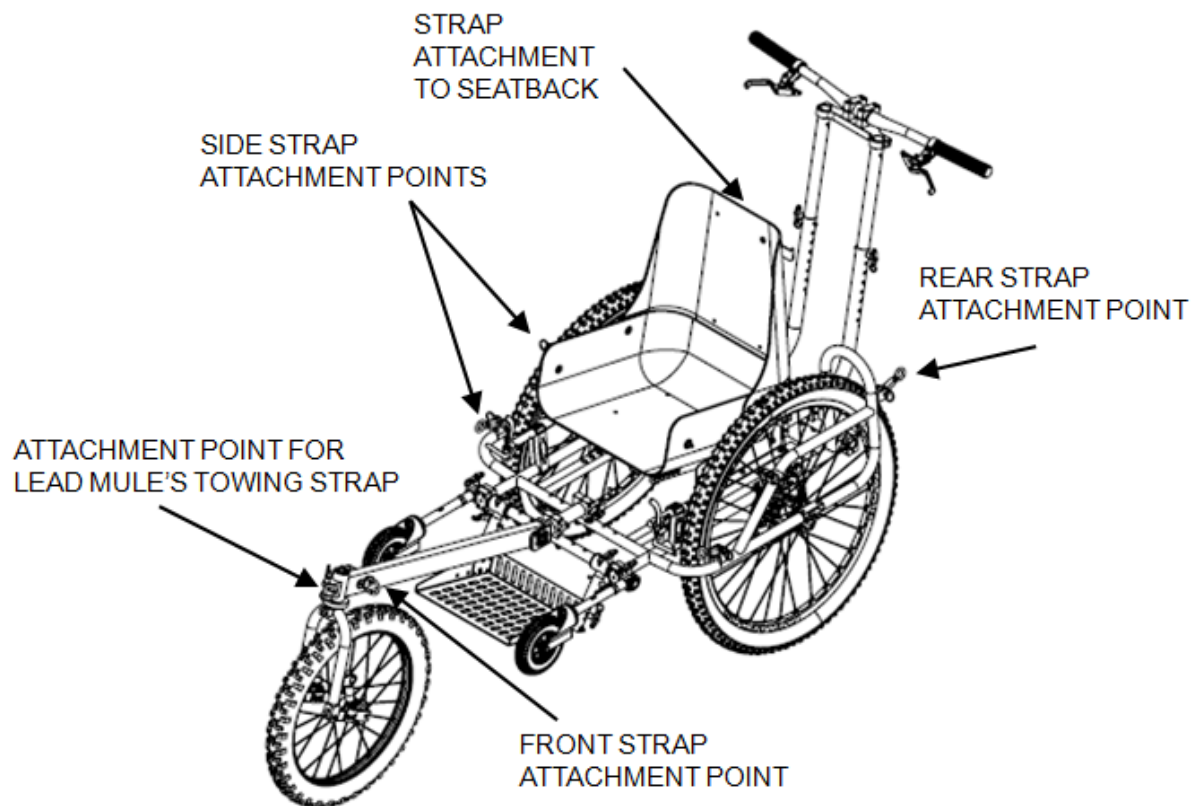

Figure 13. Strap attachment points.
- a. For easy and moderate level trails, attach a towing strap to the front of the forward beam (Figure 13).
3. Attaching straps for additional Mules: Attach the towing straps only when needed on steep uphill or downhill sections of the trail or when the trail crosses a steep sidehill. A carabiner should be attached to the end of each strap and then clipped to one of the attachments on the AdvenChair frame. There are four attachment points on each side of the AdvenChair and if the towing poles are not being used, at the front of the forward beam (Figure 13).
- a. Make sure the straps are attached securely to one of the AdvenChair mounting points with a carabiner (Figure 13).